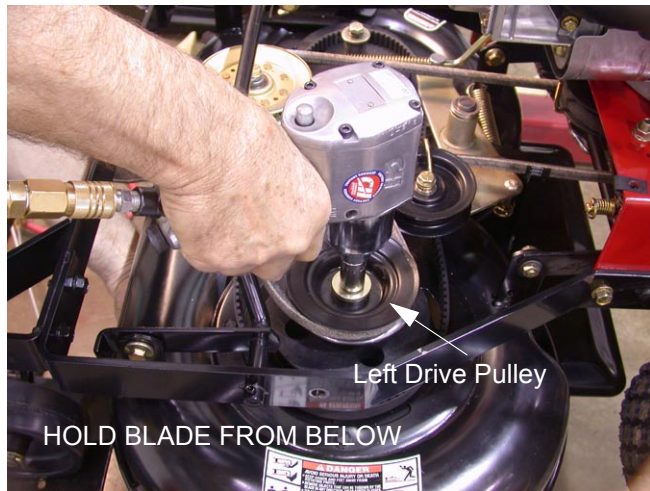

Figure 47
- 13.9. Using a shop rag to protect your hand, hold the blade secure while removing the flange lock screw that secures the left spindle shaft with an air gun and 5/8 inch socket. See Figure 47.